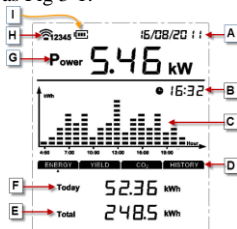

Fig 3-1 Solar Eye main interface
Solar Eye main interface as Fig 3-1:
Pos. Fig 3-1	Description
1)**Hour:** Press “right” button, you can view the energy and power values/hour of last 34 hours yield by your PV system, Shown as in “Fig 3-1” “B” means the time you check, “F” means energy and power values yield in this hour.
2)**Day:** Press “right” button, you can view the energy and power values/day of this day yield by your PV system, Shown as in “Fig 3-1” “A” means the data you check, “F” means energy and power values yield in the day.
3)**Week:** Press “right” button, you can view the energy and power values/week of last 34 weeks yield by your PV system, Shown as in “Fig 3-1” “B” means the week you check, “F” means energy and power values yield in this week.
4)**Month:** Press “right” button, you can view the energy and power values/month of last 34 months yield by your PV system. Shown as in “Fig 3-1” “A” means year you check, “F” means energy and power values yield in this month.
5)**Year:** Press “right” button, you can view the energy and power values/year of last 4 years yield by your PV system. Shown as in “Fig 3-1” “A” means year you check, “F” means energy and power values yield in this year.